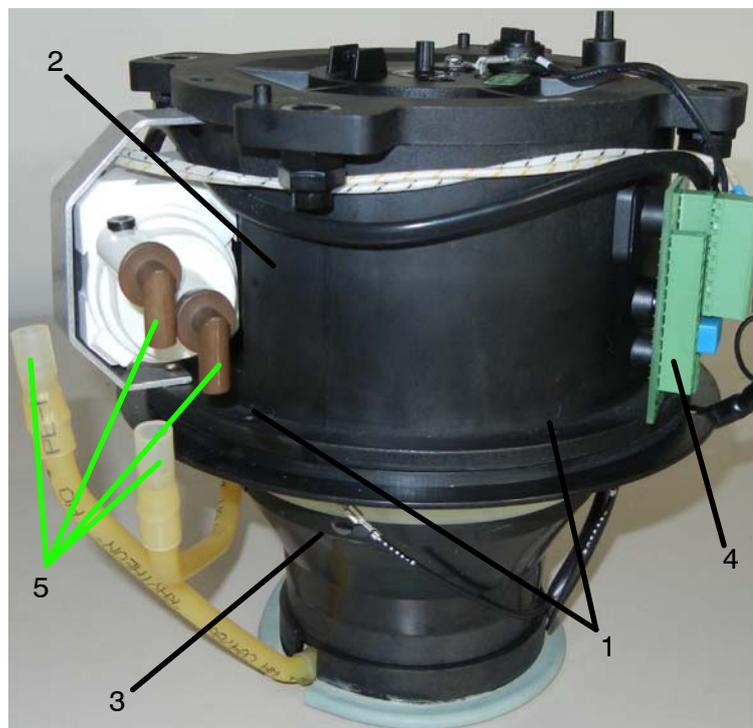
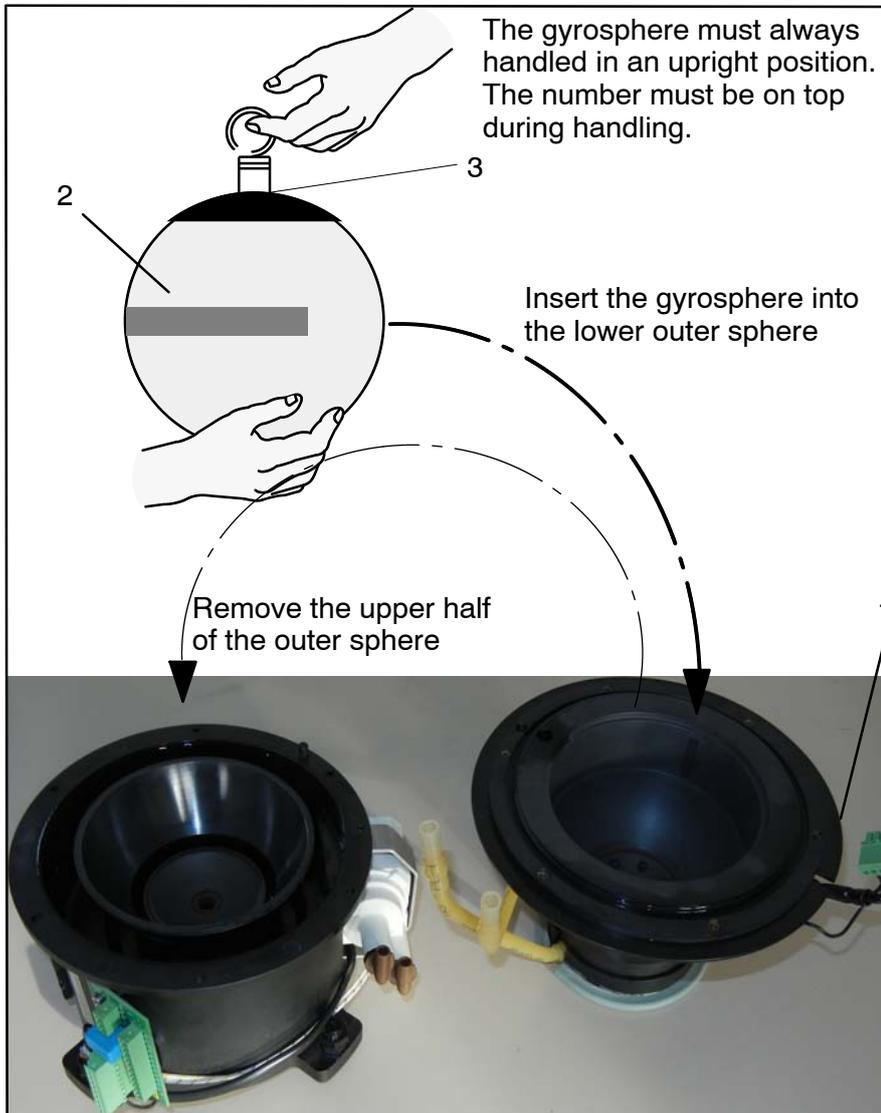

Figure 44: Outer sphere
Figure 45: Principle of separating the upper and lower halves of the outer sphere
- Remove the hose connections (Figure 44/5).
- Undo the six screws (Figure 44/1) fastening the upper and lower halves of the outer sphere (Figure 44/2 and 3).
- Remove plug B3 (Figure 44/4) from the plug plate.
- Remove the upper half of the outer sphere (Figure 44/2). Take the gyrosphere (Figure 45/2) out of the transportation box and carefully insert it using the suction cup (Figure 45/3) in the lower outer sphere (see Figure 45).
Check that there is a proper seal between the two halves of the outer sphere (see Figure 45/1).
- Retighten the six screws (see Figure 44/1).
- Insert plug B3 (Figure 44/4) again.
(from the bottom of the outer sphere to the right input of the pump and from the side of the outer sphere to the left input of the pump – see Figure 44).